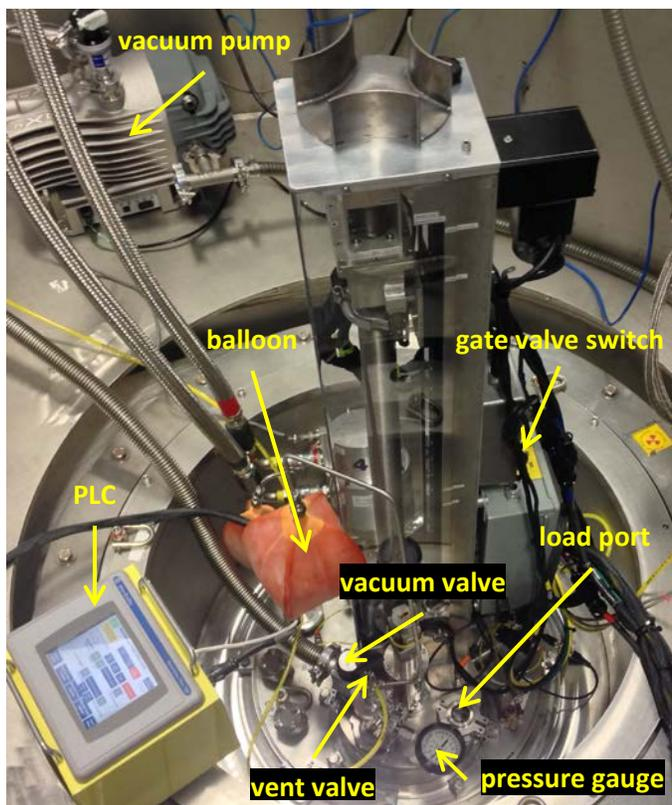

Figure 2. PAC sample changer
- e. On the sample changer, close the gate valve to isolate the cold head from the sample carousel (Figure 2).
- a. Open the He vent valve on the PAC (Figure 2) and verify flow. The upper balloon should start to inflate.
- b. Leaving the He flowing, remove the clamp and window from the loading port (Figure 2).
- a. With the vacuum valve (Figure 2) closed, start the vacuum pump by pressing the green button. Open the valve on the top of the vacuum pump.